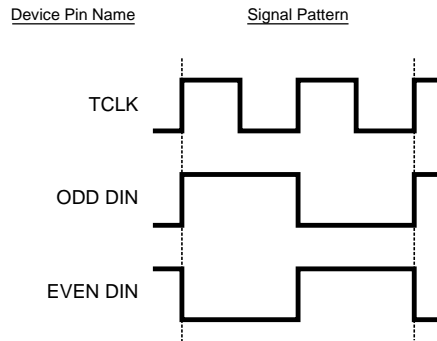
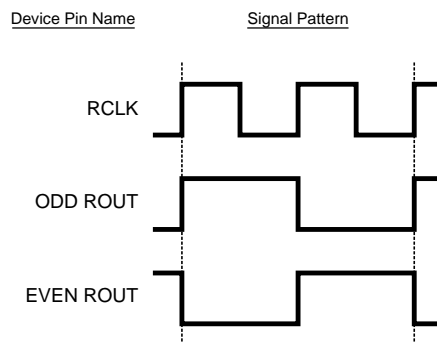
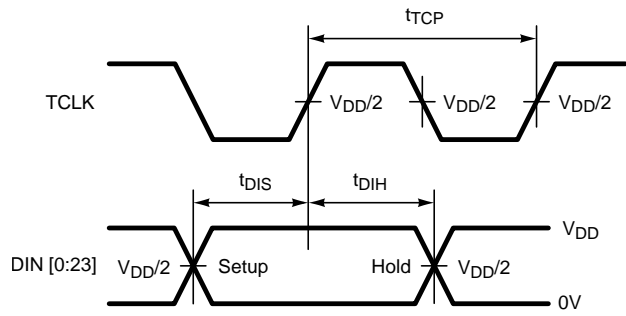
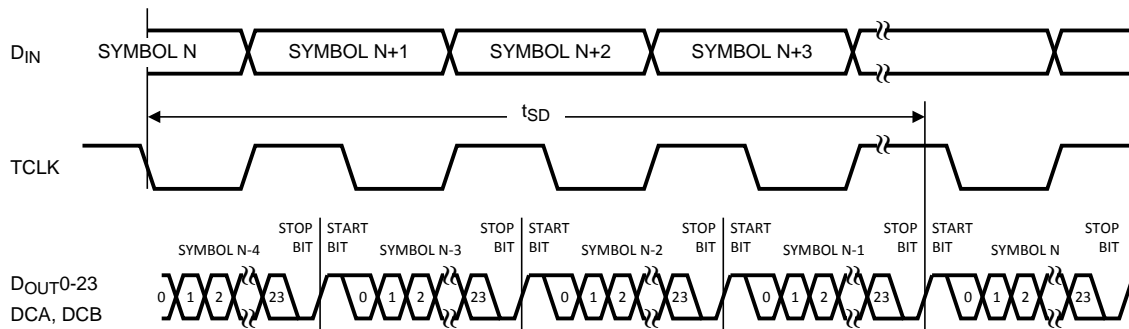

Figure 1. Serializer Input Checkerboard Pattern
Figure 2. Deserializer Output Checkerboard Pattern
Figure 5. Serializer Setup/Hold Times
Figure 8. Serializer Delay
(4) Figure 1, Figure 2, Figure 8, Figure 12 and Figure 14 show a falling edge data strobe (TCLK IN/RCLK OUT).
(1) Figure 5, Figure 15 and Figure 16 show a rising edge data strobe (TCLK IN/RCLK OUT).
(2) Specification is guaranteed by characterization and is not tested in production.
(3) tJIT (@BER of 10e-9) specifies the allowable jitter on TCLK. tJIT not included in TxOUT\_E\_O parameter.
- (1) Specification is guaranteed by characterization and is not tested in production.
- (2) Figure 5, Figure 15 and Figure 16 show a rising edge data strobe (TCLK IN/RCLK OUT).
- (3) When the Serializer output is at TRI-STATE the Deserializer will lose PLL lock. Resynchronization MUST occur before data transfer.
- (4) Figure 1, Figure 2, Figure 8, Figure 12 and Figure 14 show a falling edge data strobe (TCLK IN/RCLK OUT).
- (5)  $t_{JIT}$  (@BER of 10e-9) specifies the allowable jitter on TCLK.  $t_{JIT}$  not included in TxOUT\_E\_O parameter.
- (6) UI – Unit Interval, equivalent to one ideal serialized data bit width. The UI scales with frequency.
- (7) TxOUT\_E\_O is affected by pre-emphasis value.
(3) Figure 1, Figure 2, Figure 8, Figure 12 and Figure 14 show a falling edge data strobe (TCLK IN/RCLK OUT).
(5) RxIN\_TOL is a measure of how much phase noise (jitter) the Deserializer can tolerate in the incoming data stream before bit errors occur. It is a measurement in reference with the ideal bit position, please see AN-1217 (SNLA053) for detail.
(6) UI – Unit Interval, equivalent to one ideal serialized data bit width. The UI scales with frequency.